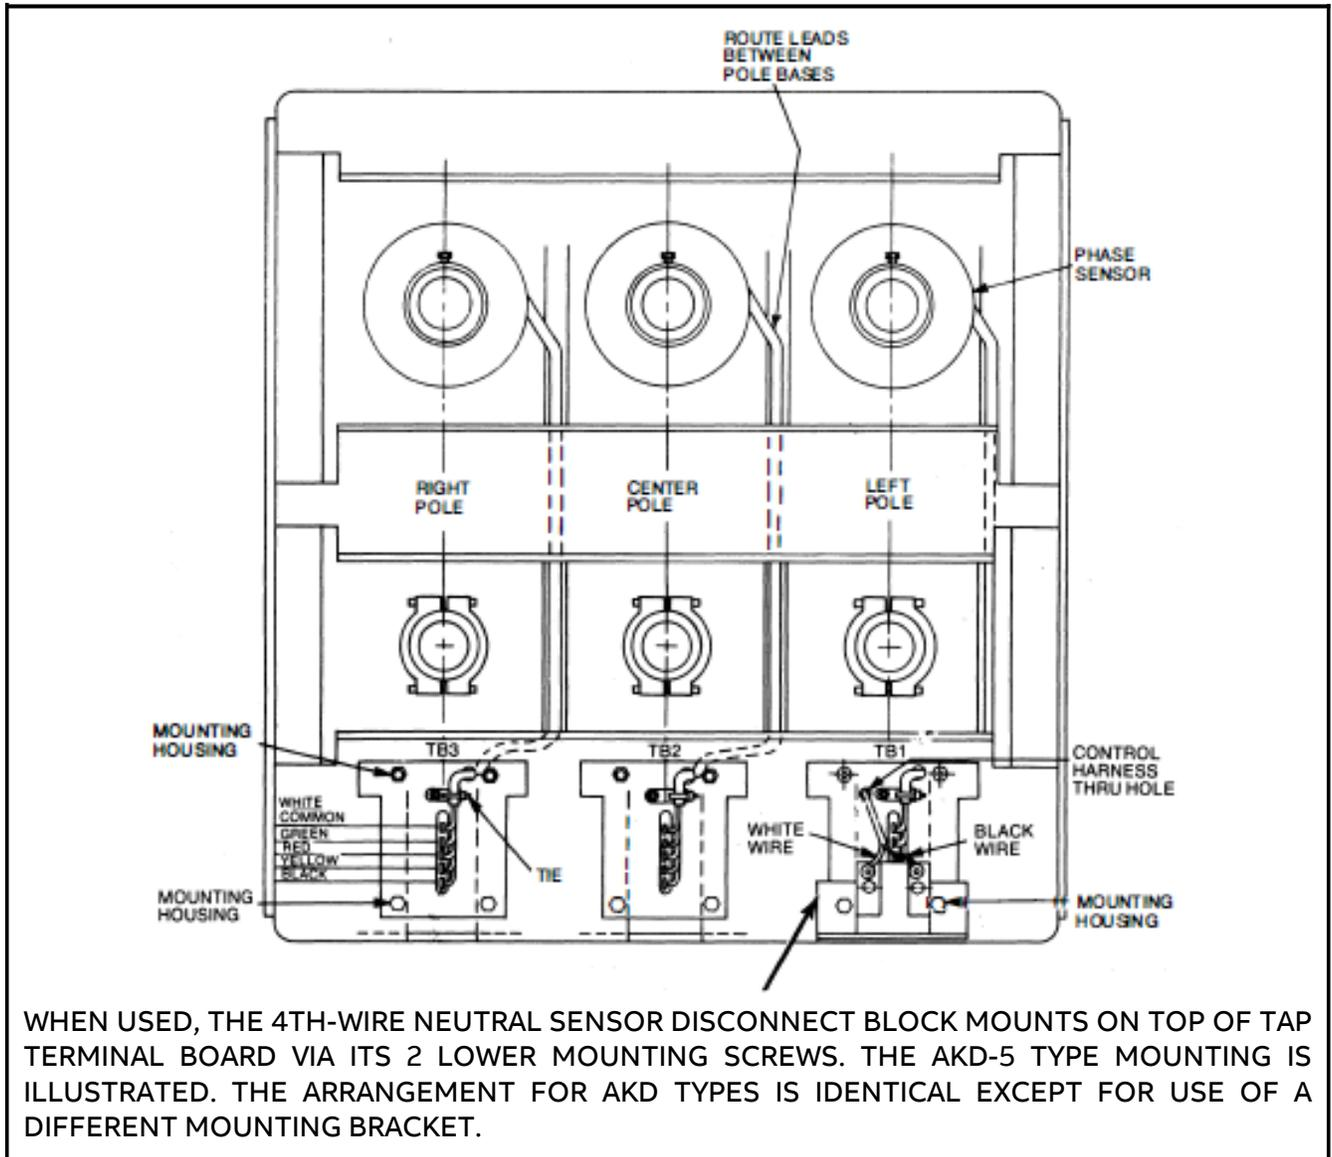

Fig. 5-5. AK-75, AK-100 Back Frame Conversion
The 4th-wire disconnect for the AK-75, AK-100 draw out breakers mount to the lower back frame as shown in Fig. 5-5.
2. If the disconnect is being added, mount the disconnect assembly as shown in Fig. 5-5.